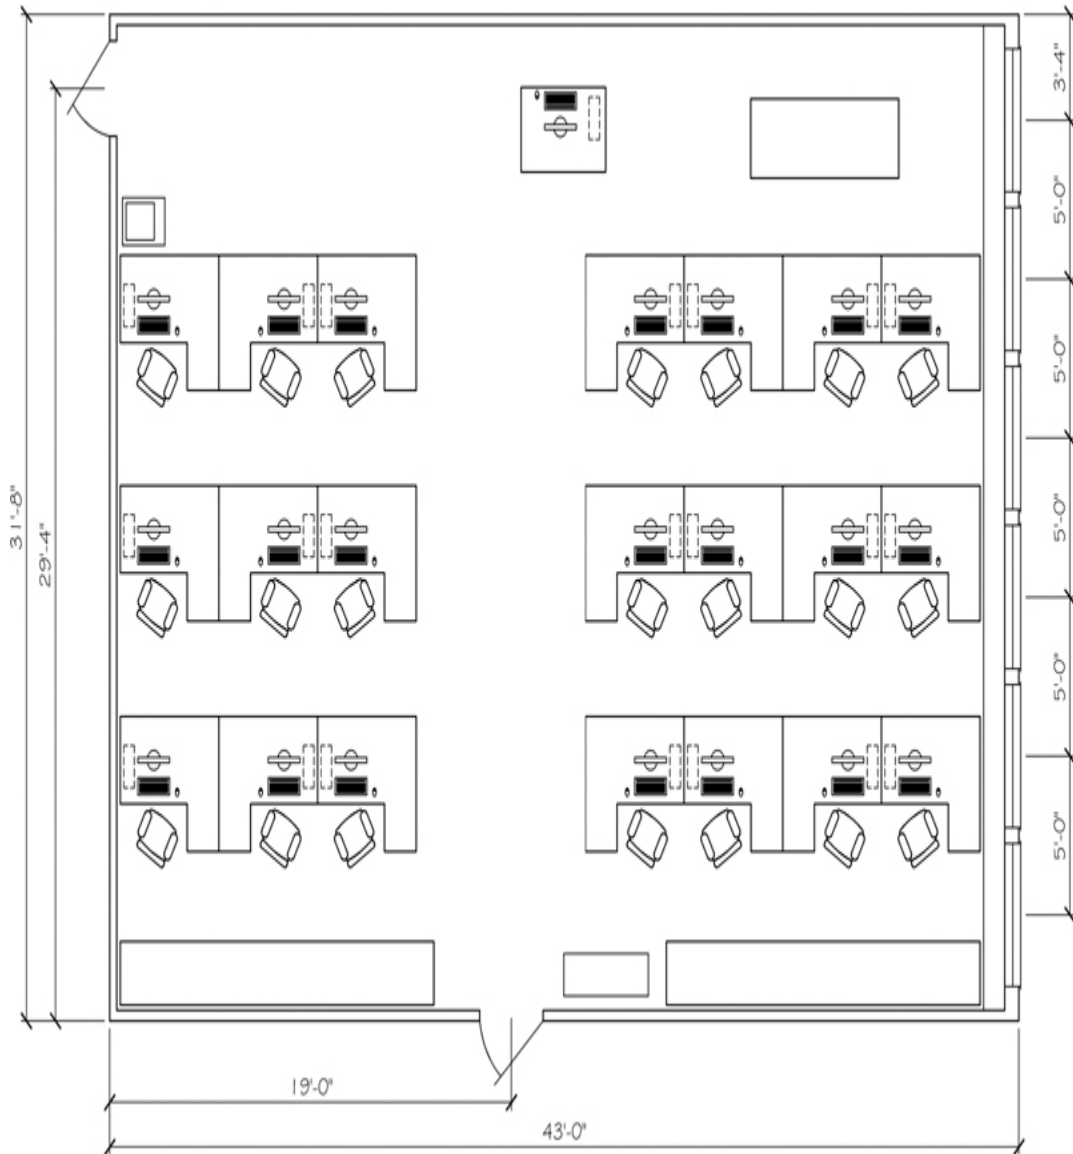

Figure 13-100
5. Add the dimensions shown in Figure 13-100.